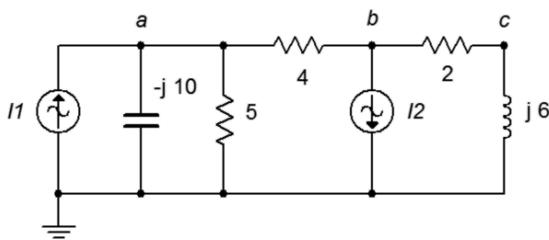

Figure 6.18
35. Use nodal analysis to find the current through the  $4 \Omega$  resistor in the circuit of Figure 6.18.
36. Given the circuit in Figure 6.18, use nodal analysis to determine  $v_c$ .  $I_1 = 6 \angle 30^\circ$ ,  $I_2 = 4 \angle 0^\circ$ .